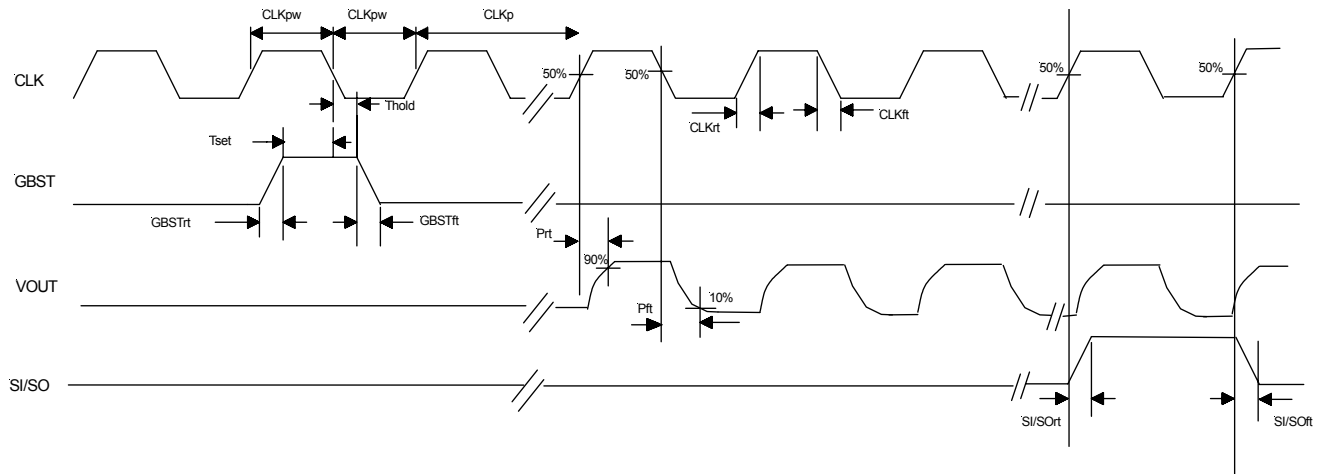

Figure 8: Rise and Fall Times for both the 2400, 1200, 600, 300dpi Modes
1. The shift register will load on all falling CLK edges, so setup and hold times (Tset, Thold) are needed to prevent the loading of multiple start pulses. This would occur if the GBST remains high during two fallings edges of the CLK signal. See Figure 8.
Figures 8 and 9 detail the timing of the CLK, GBST, Vout, and SI/SO signals in further detail, which have the same timing requirements for the 2400, 1200, 600, and 300dpi modes. The rise and fall times are listed in Table 6. In Figure 8, note that Pixel 76 is the first active pixel, as the first 75 pixels are dummy pixels.